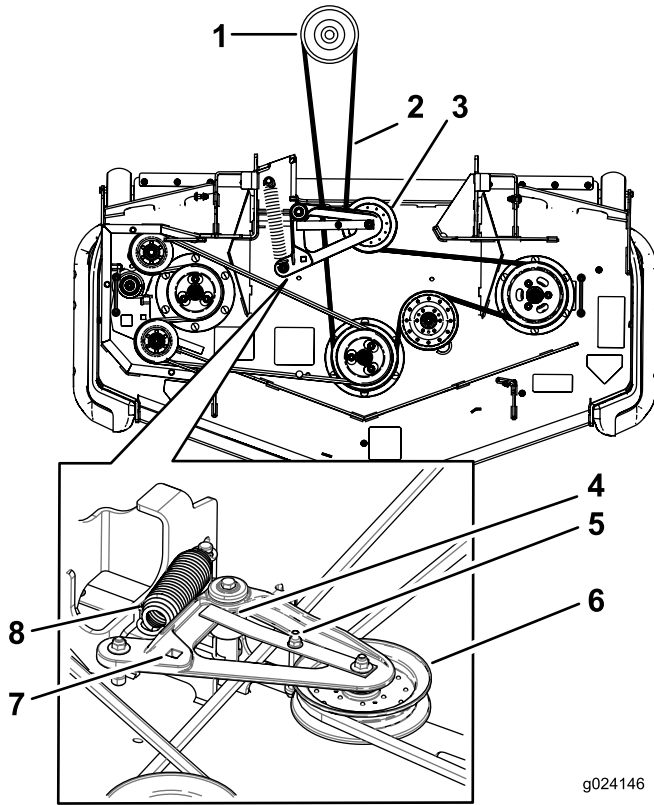

Figure 104
5. Lift up the floor pan and insert a ratchet into the square hole in the deck idler (Figure 104).
6. Rotate the mower deck idler clockwise, lift up on the belt-guide tab and remove the mower deck belt from the clutch (Figure 104).